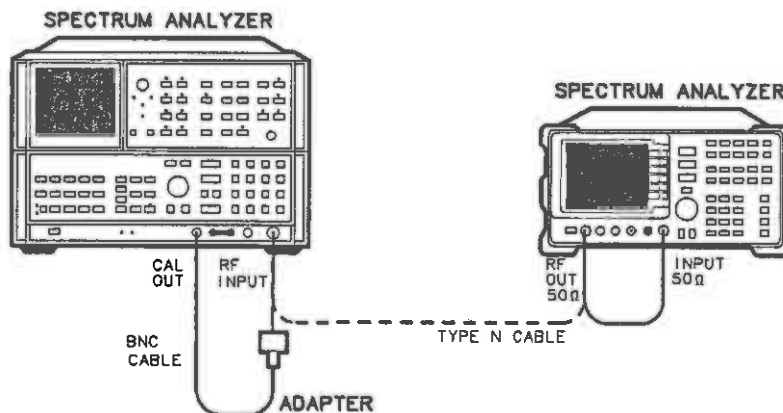

Figure 3-29. RF-Power-Off Residuals Test Setup
1. Connect the Type N cable between the spectrum analyzer's RF OUT 50 $\Omega$  and INPUT 50 $\Omega$  connectors. See Figure 3-29.
7. Connect the Type N cable from the tracking generator RF OUT 50 $\Omega$  to the HP 8566A/B RF INPUT. See Figure 3-29.